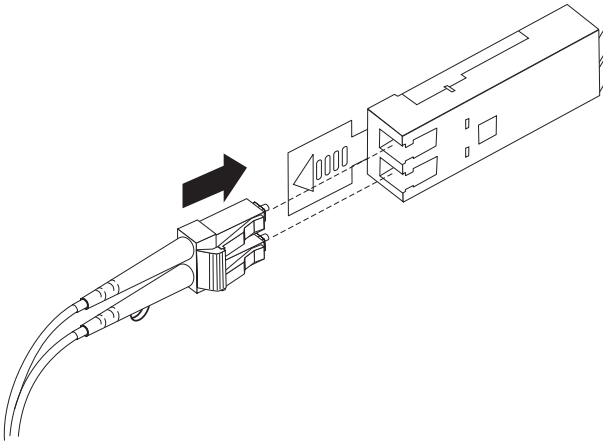

Figure 30. Inserting an LC-LC Fibre Channel cable into an SFP module
4. Carefully insert this end of the LC-LC cable into an SFP module that is installed in the DCS3700. The cable connector is keyed to ensure it is inserted into the SFP module correctly. Holding the connector, push in the cable until it clicks into place, as shown in Figure 30 on page 50.